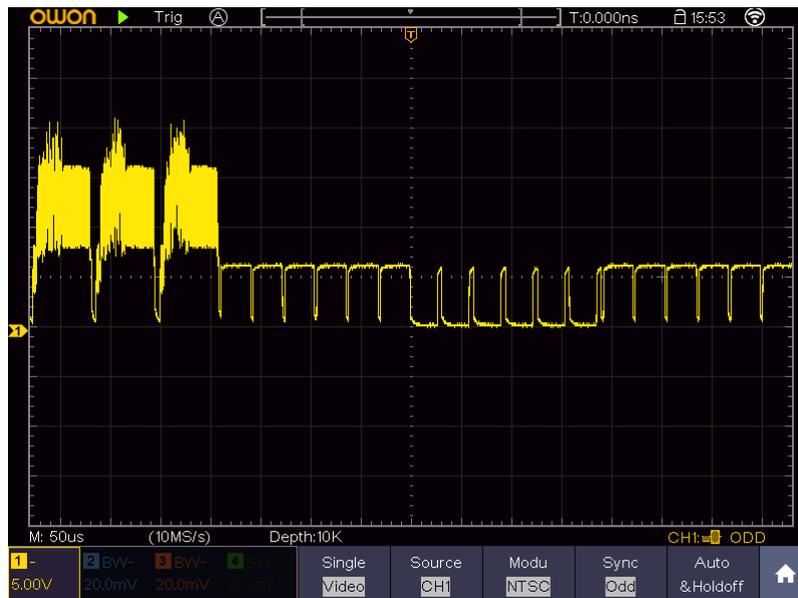

Figure 9-7 Waveform Captured from Video Field Trigger
- (1) Push the **Trigger Menu** button to display the trigger menu.
- (2) Select the first menu item in the bottom menu. Select **Single** in the right menu.
- (3) In the left menu, select **Video** as the mode.
- (4) Select **Source** in the bottom menu. Select **CH1** in the right menu.
- (5) Select **Modu** in the bottom menu. Select **NTSC** in the right menu.
- (6) Select **Sync** in the bottom menu. Select **Field** in the right menu.
- (7) Turn the **Vertical Scale**, **Vertical Position** and **Horizontal Scale** rotary controls to obtain a proper waveform display (see *Figure 9-7*).